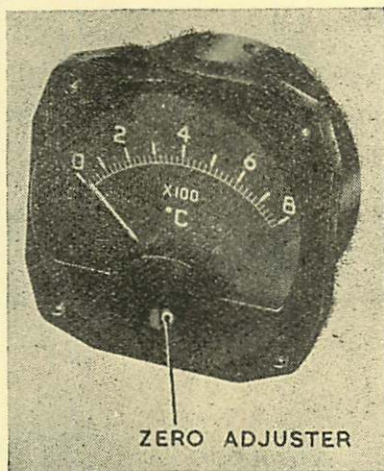

Fig. 3.
13. The indicator (Fig. 3) may be of the single or dual pointer type and consists of a sensitive moving-coil millivolt meter, the scale of which is graduated from 0° to 800°C . in increments of 20° . The pointer and the main scale markings are fluorescent. A zero adjuster in front of the case permits adjustment of the pointer to read the ambient temperature of the instrument; this